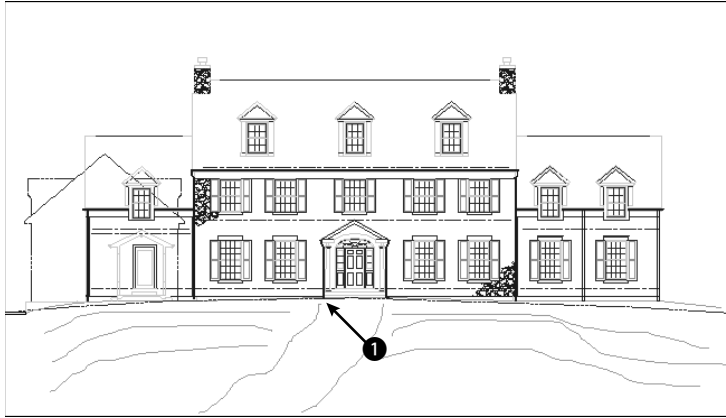

**Figure 16-37:** A sketched path and contours.
2. Save the file as *ab16-08.dwg* in your AutoCAD Bible folder. It shows the front elevation of a house. You'll add the sketched path and contours, as shown in Figure 16-37.
5. At the Sketch. Pen eXit Quit Record Erase Connect. prompt, move the cursor to **1** in Figure 16-37. Click the pick button to put the pen down and draw the first line of the path. Click the pick button to put the pen up.
6. Use the same technique to draw the other lines in Figure 16-37. If you make a mistake, type **q** ↵ to quit and then start again.